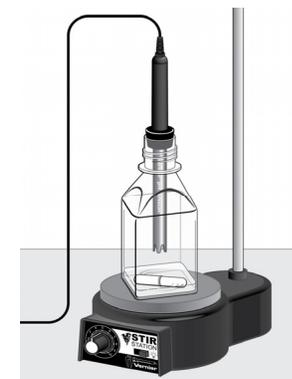

Figure 2
5. The 250 mL fermentation chamber and #6 split stopper included with the sensor provide a convenient setup as shown in figure 2. Place the chamber on a stir plate to keep the sample moving. Wrap the stopper around the sensor, rather than sliding it on or